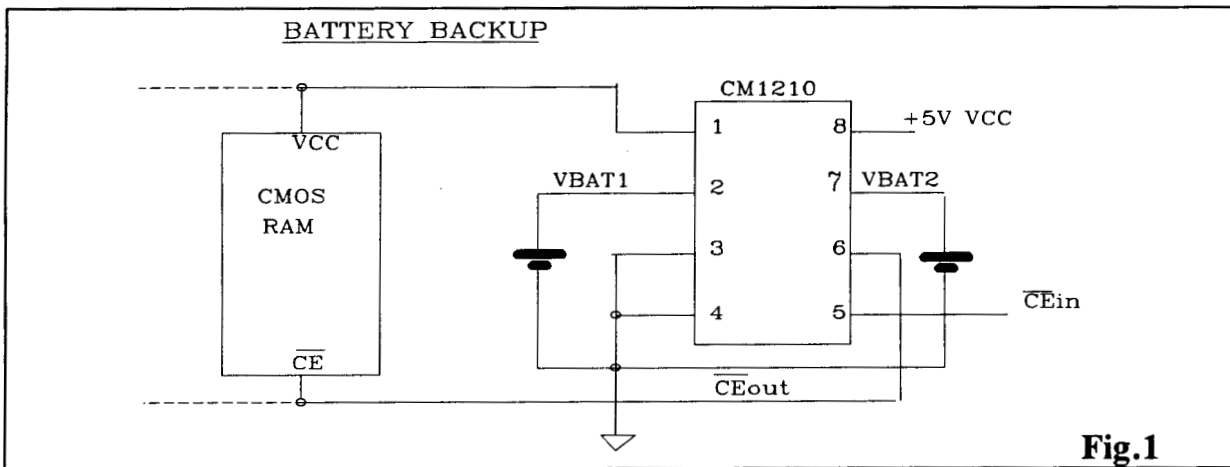

Fig.1
**Fig. 1** shows a typical application to make CMOS RAMs nonvolatile with all the necessary connections to write protect the RAMs when VCC is less than 4.75 Volts.